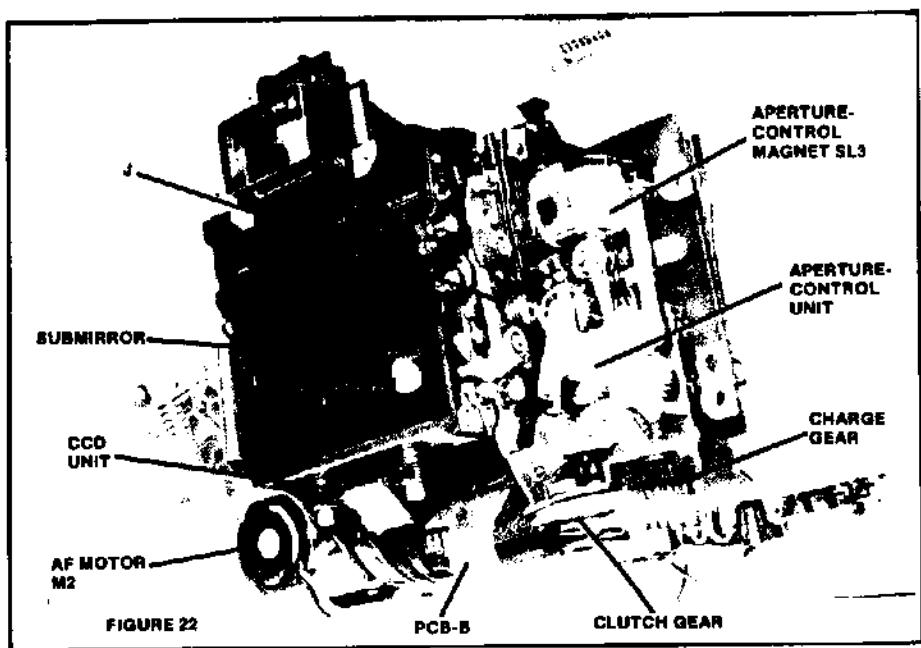

FIGURE 22
2. PC board B set (PCB-B). On mirror box, Fig. 22, for autofocus control. Has four IC's:
2. M2. AF motor on mirror box, Fig. 22. IC9 drives M2 according to signals received from IC6. M2 turns the AF coupler, Fig. 7, to set the lens focus.
1. SL3. Hybrid aperture-control magnet on mirror box, Fig. 22. SL3 separates to stop the diaphragm at the proper f/stop.
2. PI2. On the mirror box by the AF motor, Fig. 22. The interrupter disc rotates as the AF motor runs, providing the feedback signal for the lens position.
A. Light passing through the lens reflects from the submirror, Fig. 22, to the CCD (built into IC7). The CCD stores the lens-focus information.